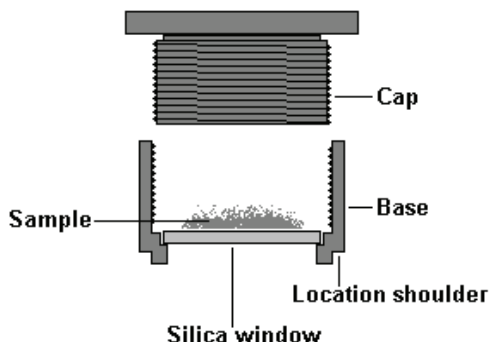

Figure 53 The powder accessory
1. Unscrew the base plate from the Powder holder and add the sample onto the silica window, as shown in Figure 53.